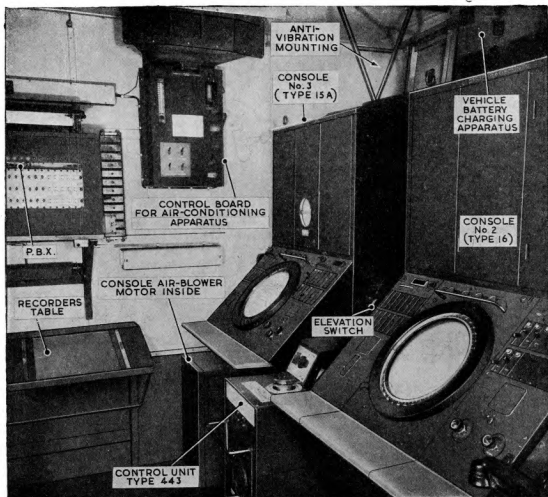

Fig. 25. R.V.467E : view towards front wall
**Air-conditioning equipment (fig. 25)**